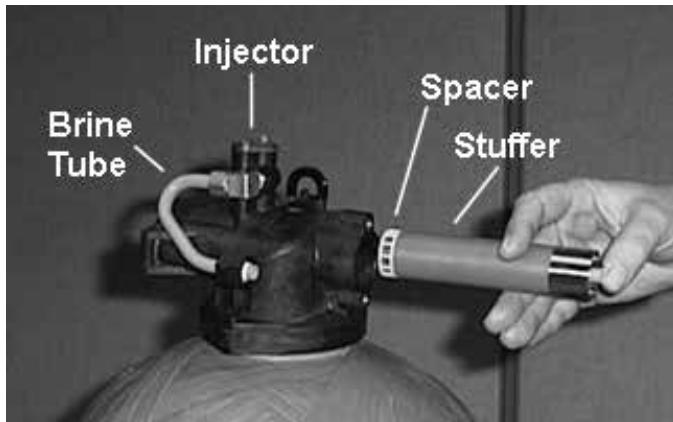

Figure 9
11. To replace seals, spacers and end ring, use special tool with the brass sleeve on one end. This is a double-purpose tool (see Figure 9). The male end acts as a pilot to hold the spacers as they are pushed into the valve body and the brass female end is used to insert the seals into the valve.